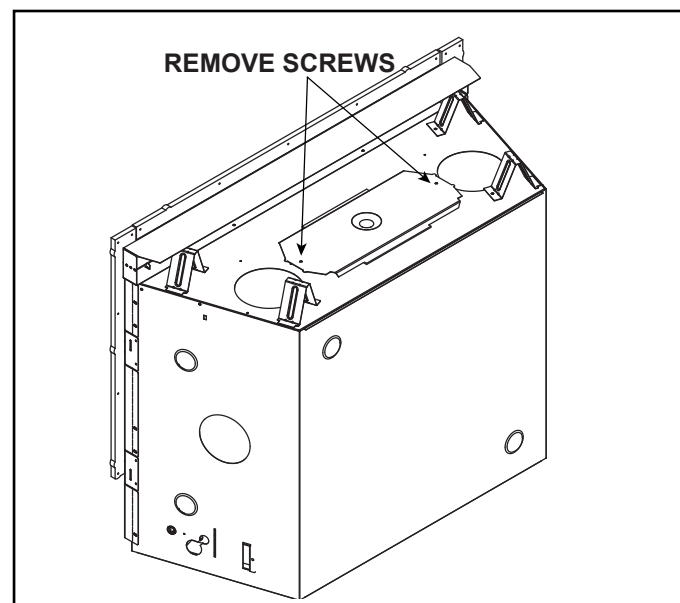

Figure 6.1 COSMO42-IFT-B / COSMO36-IFT-B - Shipping Position
1. Remove two screws and discard. See Figure 6.1.